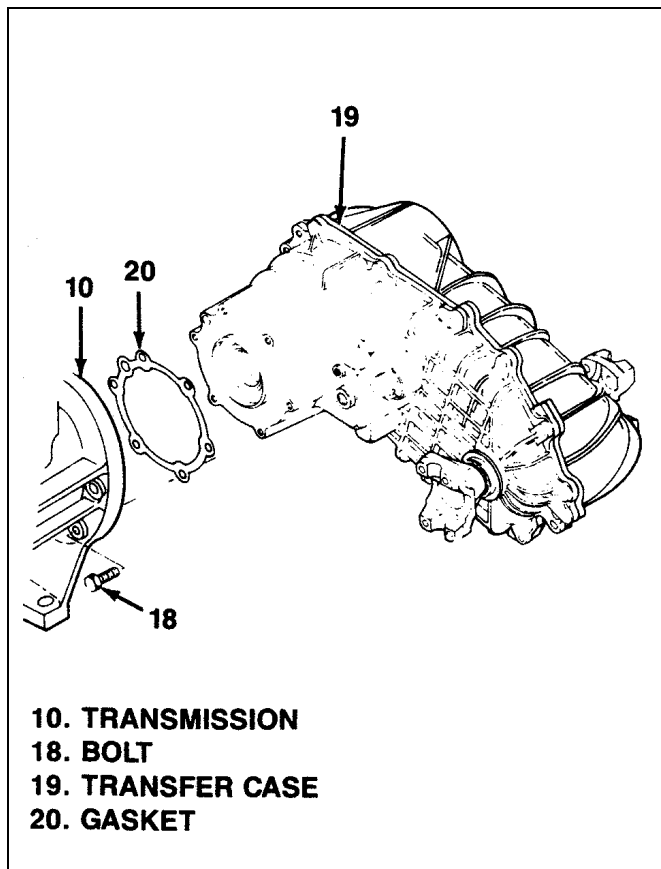

Figure 2-4. Transfer Case
Make sure transfer case is completely supported by jack or stand before removing bolts (18, figure 2-4) attaching transfer case to transmission. Do not allow transfer case to “hang” from transmission by splined shaft since this may damage input bearings.
- a. Apply thin coat of high temperature grease to output shaft spline on transmission (10, figure 2-4).
- b. Install new gasket (20) on transfer case (19) mounting face.
- c. Raise transfer case (19) on jack or stand. Align transfer case with transmission (10).